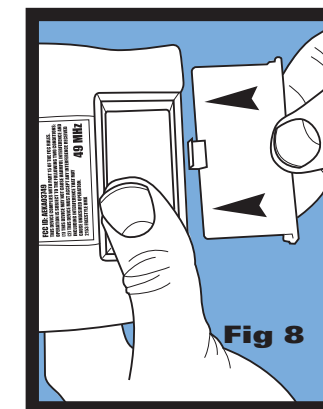

Fig 8
3. Hold battery in place with thumb and replace BATTERY DOOR. (Fig. 8)